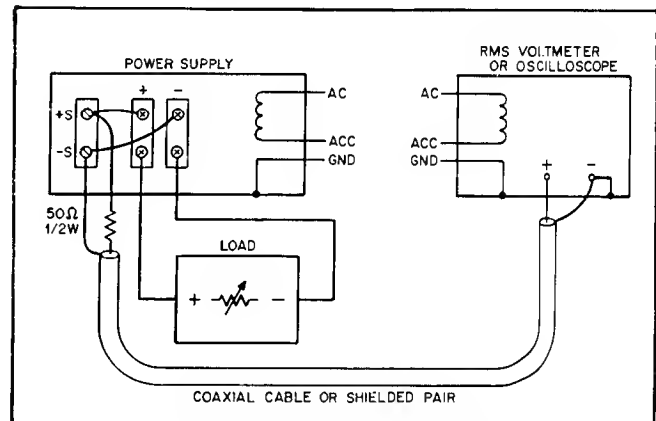

Figure 5-3. Constant-Voltage Ripple Test Setup.
5-22 **Ripple Measurement Techniques.** Figure 5-3 shows the method for measuring ripple using a single-ended true-reading RMS voltmeter or oscilloscope. The power supply output terminals should not be connected to ground at the power supply terminal strip to prevent current from flowing through a ground loop and adding to the measured signal. Also, to ensure that no potential difference exists between the supply and the RMS voltmeter, it is recommended that they both be plugged into the same ac power bus. If the same bus cannot be used, both ac grounds must be at earth ground potential.
- Connect test setup shown in Figure 5-3.
5-26 A single-ended measurement (replacing RMS voltmeter in Figure 5-3 with an oscilloscope) is usually not adequate for measuring spikes; a differential oscilloscope is necessary. Because of its common-mode rejection, a differential oscilloscope displays only the difference between its two vertical input terminals, thus ignoring the effects of any common-mode signal produced by the difference in the ac potential between the power supply case and the oscilloscope case. Before using a differential-input oscilloscope, however, it is imperative that the common-mode-rejection capability of the oscilloscope be verified. Turn both the VOLTAGE and CURRENT controls fully counterclockwise, short together the two input leads at the power supply, and observe the trace on the CRT. If the trace is a straight line, then the oscilloscope is properly ignoring any common-mode noise present. If the trace is not a straight line, then the oscilloscope is not rejecting the ground signal and must be realigned in accordance with the manufacturer's instructions so that proper common-mode rejection is attained.